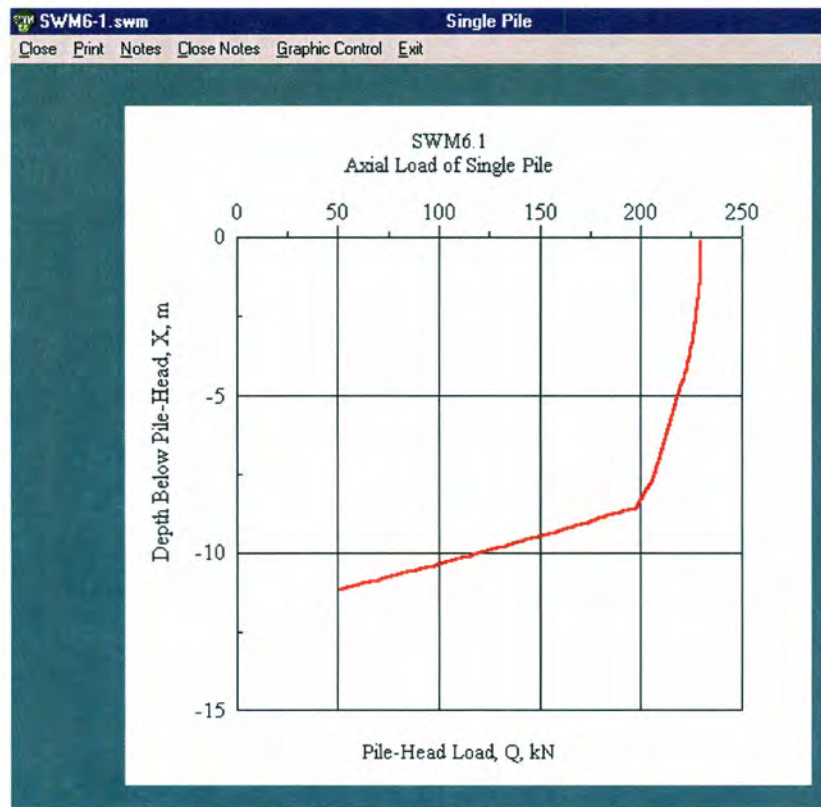

Fig. 25 Axial Load Distribution along Pile/Pile Length
- **Axial Load Distribution** [Fig. 25]